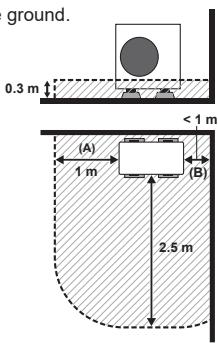

Fig. 3-4
- (3) When installed in a location with 2 surfaces opened (where the distance between one side of the unit and the wall is less than 1 m, e.g. at the corner of a building wall) (Fig. 3-4)
Where the distance between one side of the unit and the wall is less than 1 m, same conditions as shown in Fig. 3-4 apply.